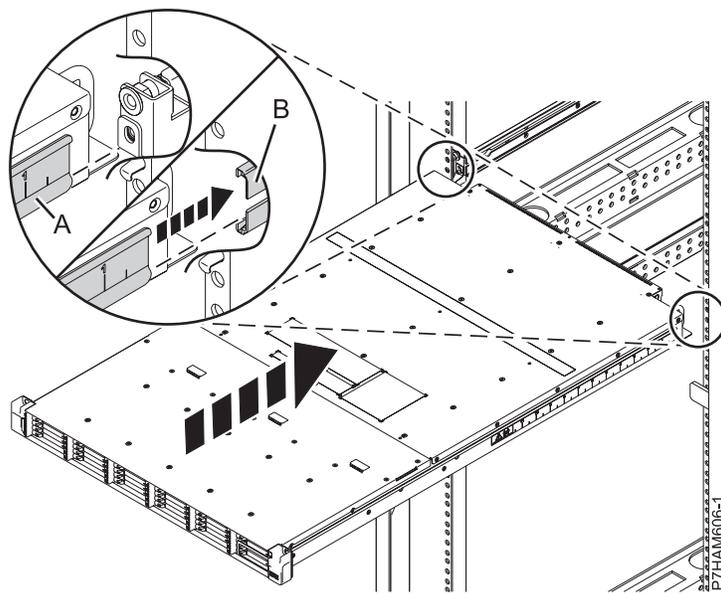

Figure 11. Fitting the enclosure into the rail sheath
- c. On one side of the enclosure, insert the chassis bracket guide (A) into the rail sheath (B) opening, as shown in Figure 11. Repeat this operation on the other side.